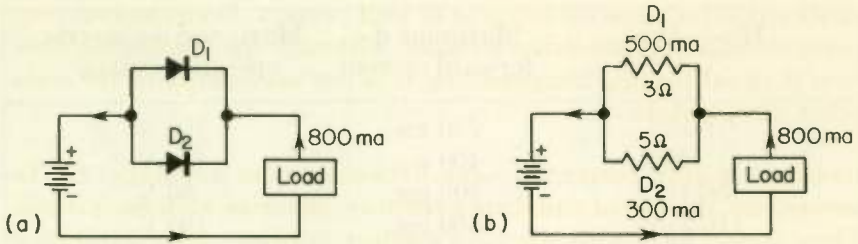

Fig. 8 (a) Diodes in parallel. (b) The equivalent circuit of (a).
DIODES IN PARALLEL . . . If proper precautions are taken, diodes can be connected in parallel to increase the current carrying capacity. In Fig. 8(a) the load current is the ⁽⁵²⁾ _____ of diode D_1 current and diode D_2 current. If the load requires 800 ma, and if both diodes conduct equal amounts of current, then the maximum d-c forward current rating of each diode must be ⁽⁵³⁾ _____ ma or more. If the load requirement were 1600 ma, it could be met by using ⁽⁵⁴⁾ _____ 400 ma diodes in parallel, assuming that all the diodes drew equal currents.
If two diodes with unequal forward resistances are connected in parallel, the diode with the least resistance will draw ⁽⁵⁷⁾ _____ current than the other diode. If diode D_1 in Fig. 8(a) has a forward resistance of 3 ohms and D_2 5 ohms, the equivalent circuit will be as in Fig. 8(b). The 800 ma to the load will be split with 500 ma going through D_1 , and 300 ma through D_2 . If both diodes are rated at 400 ma maximum average forward current, then diode ⁽⁵⁸⁾ _____ will be overloaded and damaged.
Reasonably good current division between diodes in parallel can be assured by the use of equalizing resistors in series with each diode. These should be of such size as to produce at least a 1.5 or 2 volt drop for junction diodes and a 2 or 3 volt drop for metallic rectifiers. For example, if a 5 ohm resistor is connected in series with each branch in Fig. 8(b), the total branch resistances will be 8 ohms for the top branch and ⁽⁶⁰⁾_____ ohms for the bottom branch. The current through D_1 will now be 444 ma and the current through D_2 , 356 ma, a much more satisfactory distribution than without the equalizing resistors. The disadvantage of using equalizer resistors with diodes in parallel is the additional voltage loss of the resistors.
1. In Fig. 8(b) show that if 5-ohm equalizing resistors are used with each diode, the D_1 current is 444 ma and the D_2 current 356 ma.